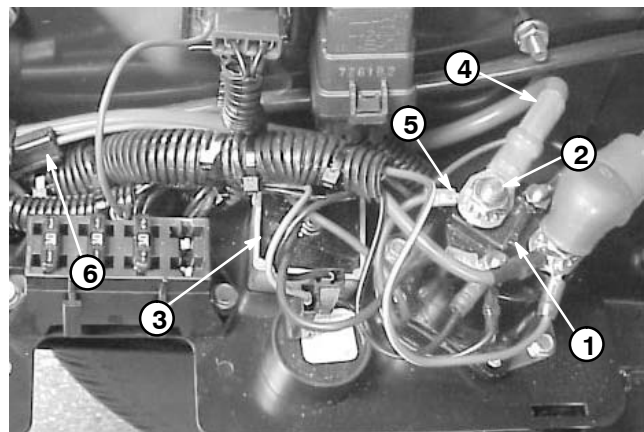

Figure 10
3. Make sure all wires in the charging circuit are connected correctly and tightly. Note the correct location of starter/generator cable and voltage regulator wire at the start/run solenoid (Fig. 10).
A. Disconnect green wire connector from voltage regulator (Fig. 10). Connect disconnected green wire lead from starter/generator to ground with a jumper lead.